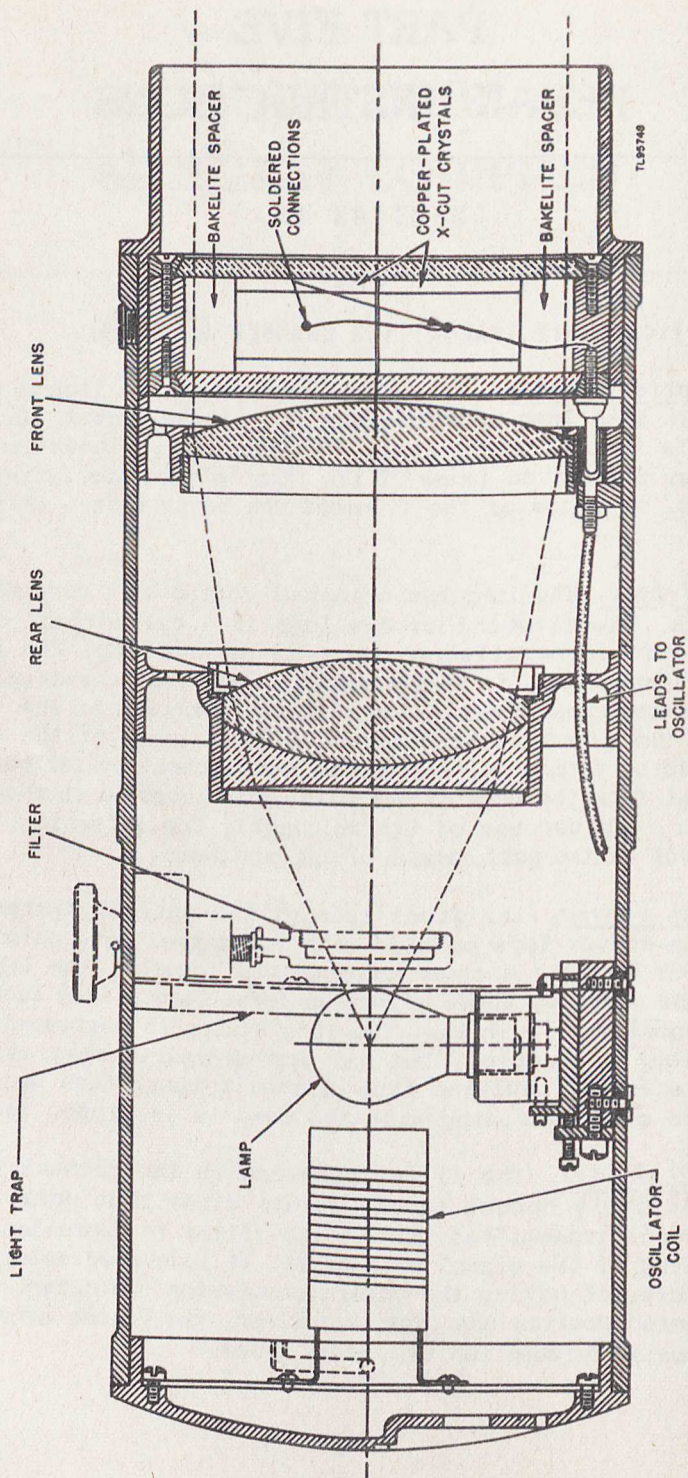

Figure 24. Transmitter, cutaway view.
41. OPTICAL UNIT TRANSMITTER CHAMBER (fig. 24).